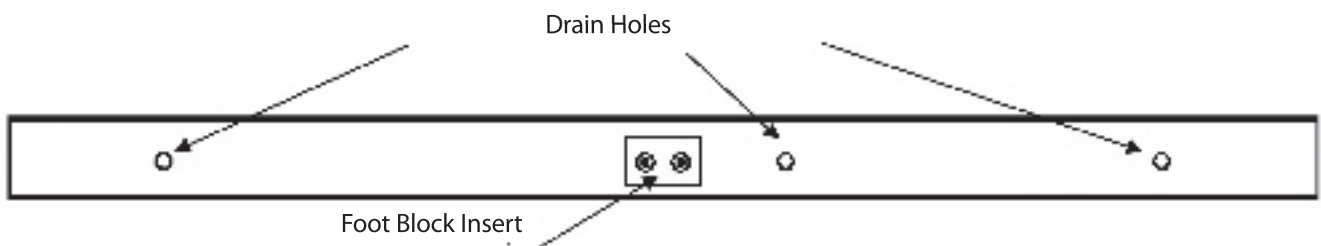

Figure 6. Drain Hole Locations (Bottom of Bottom Rail)
- 3.) Drill Drain Holes. Take the 2" x 3¹/₂" rail and drill three 1/4" drain holes on the underside of the bottom rail as shown in Figure 6.